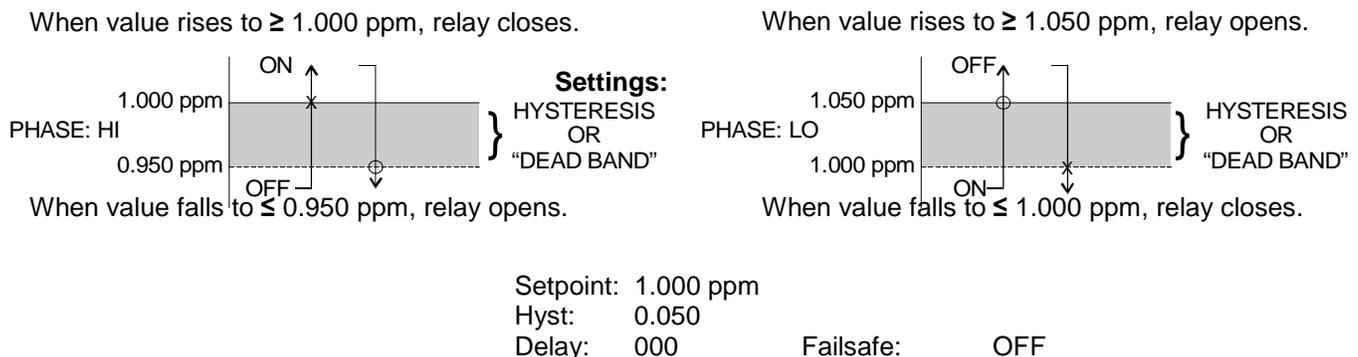

Figure 25 - Control Relay Example, Hystersis and Two opposite Phase Options
*Rly A Mode	<p>Relay A can be used in three different ways: as a setpoint control, as a fail alarm, or as a HI-LO alarm band. The three settings for Rly A Mode are CON, FAIL and AL.</p> <p>The CON setting enables normal control operation for Relay A, with settings for setpoint, hysteresis, delay and phasing appearing in the CONFIG menu automatically. See Figure 25 for further details.</p> <p>The FAIL setting enables the fail alarm mode for Relay A. Relay A will then trip on any condition that causes the FAIL icon to be displayed on the LCD. Using this mode allows the User to send alarm indications to other remote devices.</p> <p>The AL setting allows two setpoints to be selected for the same relay, producing a HI-LO alarm band. In this mode, Relay A will trip inside or outside of the band, depending upon the Phase selected. See Figure 26 for further details.</p>
Relay B Mode Relay C Mode	<p>Relay B can be used in a number of ways: as a setpoint control, or as an alarm. The two settings for Relay B Mode are CON and FAIL.</p> <p>The CON setting enables normal setpoint operation for Relay B. Relay B then operates identically to Relay A, with settings for setpoint, hysteresis, delay and phasing appearing in the CONFIG menu automatically. See Figure 25 for details.</p>
See Figure 25 below for a visual description of a typical control relay application.